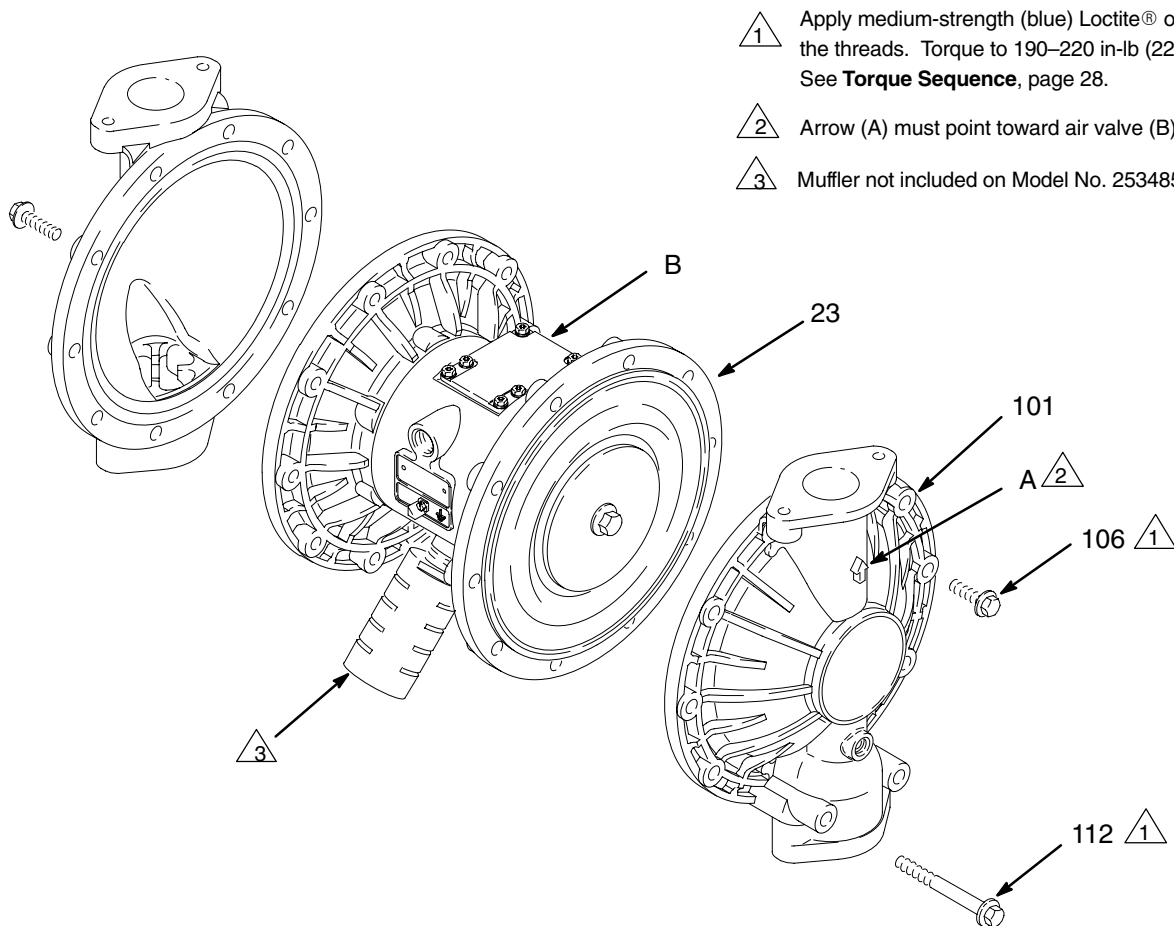
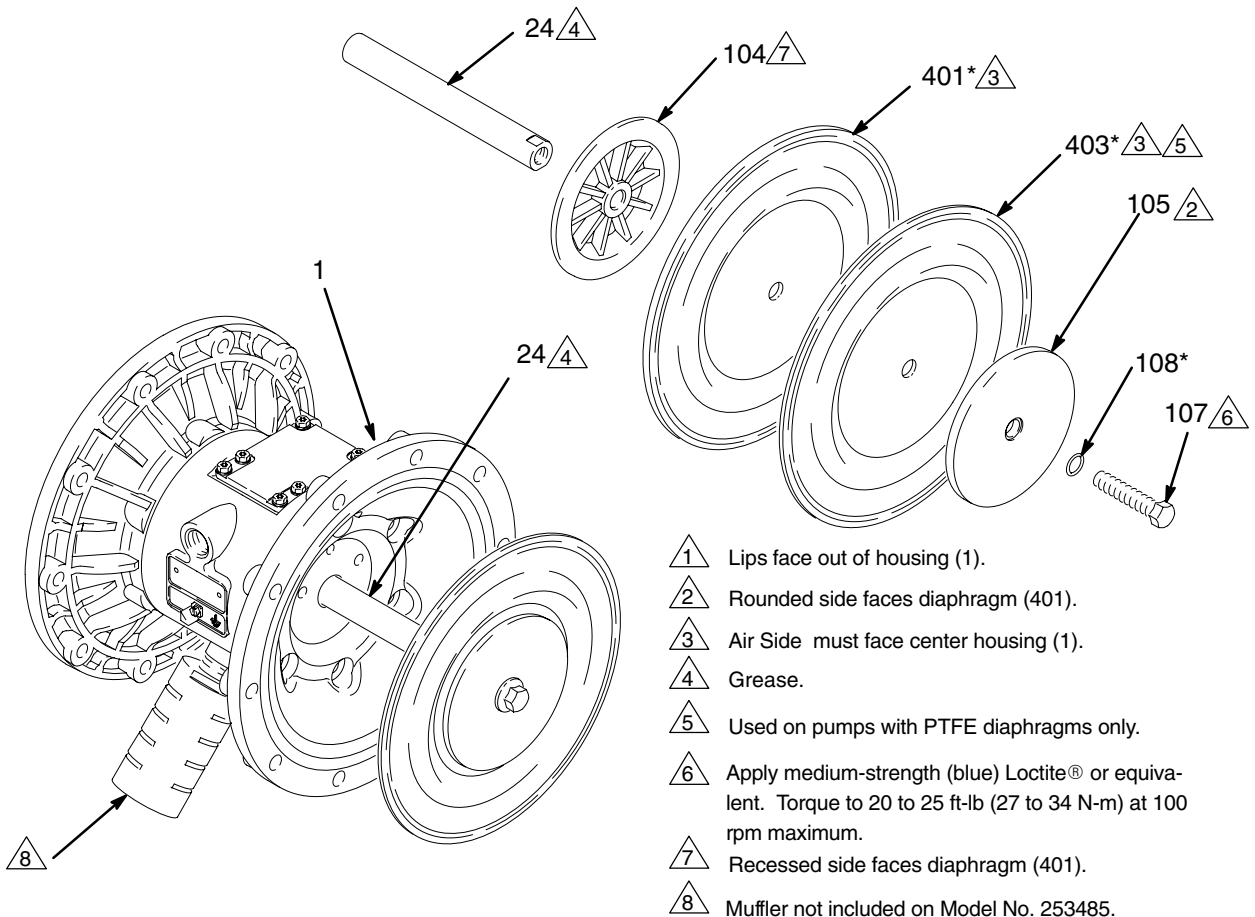
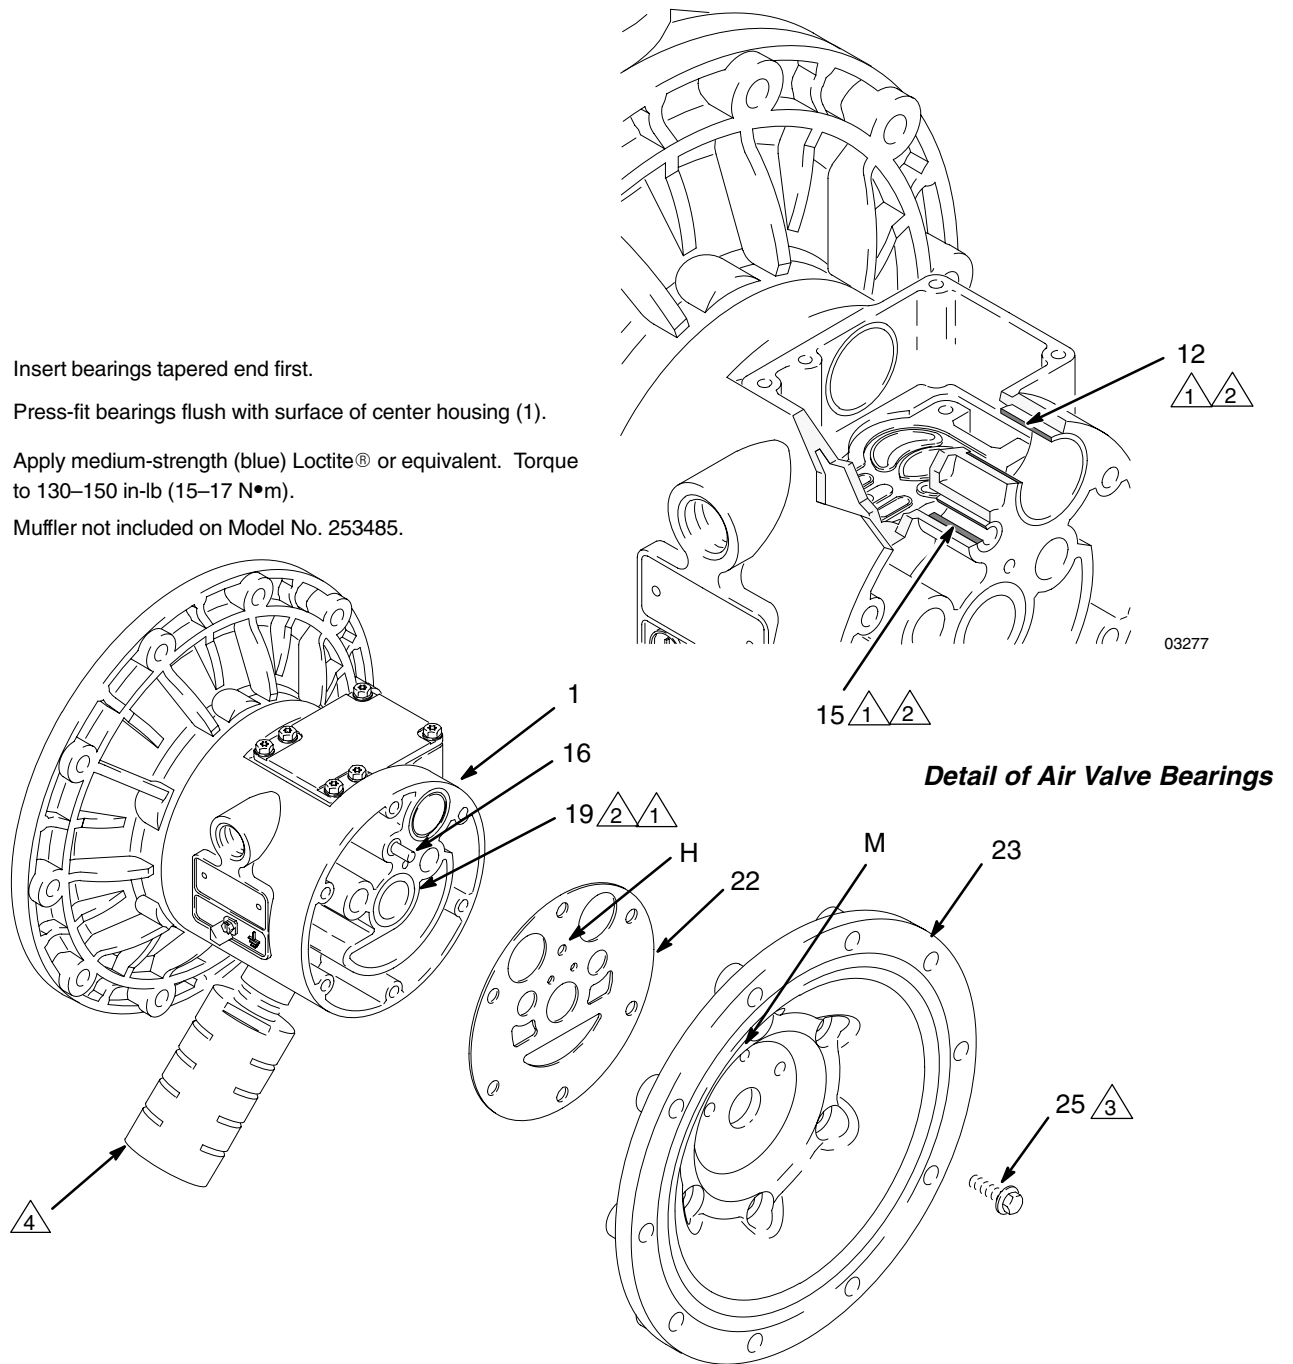

Fig. 11
Fig. 12
Fig. 13
3. Using a 13 mm socket wrench, remove the screws (106 and 112) holding the fluid covers (101) to the air covers (23). Pull the fluid covers (101) off the pump. See Fig. 11.
4. Loosen but do not remove the diaphragm shaft bolts (107), using a 15 mm socket wrench (1 in. on stainless steel models) on both bolts. *NOTE: This step does not apply to pumps with overmolded diaphragms.*
5. Unscrew one bolt from the diaphragm shaft (24) and remove the o-ring (108), fluid side diaphragm plate (105), PTFE diaphragm (403, *used on PTFE models only*), diaphragm (401), and air side diaphragm plate (104). See Fig. 12.
1. Install the shaft u-cup packings (402*) so the lips face **out** of the housing (1). Lubricate the packings. See Fig. 12.
2. Install the diaphragm assembly on one end of the shaft (24) as follows. *For pumps with overmolded diaphragms, go directly to step g.*
- a. Install the o-ring (108*) on the shaft bolt (107).
- b. Install the fluid side diaphragm plate (105) on the bolt so the rounded side faces in, toward the diaphragm (401).
- c. *On PTFE models only*, install the PTFE diaphragm (403*). Make certain the side marked AIR SIDE faces the center housing (1).
- d. Install the diaphragm (401*) on the bolt. Make certain the side marked AIR SIDE faces the center housing (1).
- e. Install the air side diaphragm plate (104) so the recessed side faces the diaphragm (401).
- f. Apply medium-strength (blue) Loctite® or equivalent to the bolt (107) threads. Screw the bolt (107) into the shaft (24) hand tight.
- g. *For overmolded diaphragms:* Assemble the air side plate (104) onto the diaphragm (403). The wide, radiused side of the plate must face the diaphragm. Apply medium-strength (blue) Loctite or equivalent to the threads of the diaphragm assembly. Screw the assembly into the shaft (24) hand tight.
3. Grease the length and ends of the diaphragm shaft (24), and slide it through the housing (1).
5. Hold one shaft bolt (107) with a wrench and torque the other bolt to 20–25 ft-lb (27–34 N•m) at 100 rpm maximum. *NOTE: This step does not apply to pumps with overmolded diaphragms.*
6. Align the fluid covers (101) and the center housing (1) so the arrows (A) on the covers face the same direction as the air valve (B). Apply medium-strength (blue) Loctite® or equivalent to the threads of screws (106) and (112), and secure the covers with the screws handtight. Install the longer screws (112) in the bottom holes of the covers. See Fig. 11. Using a 13 mm socket wrench, torque the screws oppositely and evenly to 190–220 in-lb (22–25 N•m). See **Torque Sequence**, page 28.
- NOTE:** If you are removing only the diaphragm shaft bearing (19), skip step 4.
5. Using a 10 mm socket wrench, remove the screws (25) holding the air covers (23) to the center housing (1). See Fig. 13.
6. Remove the air cover gaskets (22). Always replace the gaskets with new ones.
7. Use a bearing puller to remove the diaphragm shaft bearings (19), air valve bearings (12) or pilot pin bearings (15). Do not remove undamaged bearings.
8. If you removed the diaphragm shaft bearings (19), reach into the center housing (1) with an o-ring pick and hook the u-cup packings (402), then pull them out of the housing. Inspect the packings. See Fig. 12.
1. If removed, install the shaft u-cup packings (402*) so the lips face **out** of the housing (1).
2. The bearings (12, 15, and 19) are tapered and can only be installed one way. Insert the bearings into the center housing (1), **tapered end first**. Using a press or a block and rubber mallet, press-fit the bearing so it is flush with the surface of the center housing.
4. Align the new air cover gasket (22) so the pilot pin (16) protruding from the center housing (1) fits through the proper hole (H) in the gasket.
5. Align the air cover (23) so the pilot pin (16) fits in the middle hole (M) of the three small holes near the center of the cover. Apply medium-strength (blue) Loctite® or equivalent to the threads of screws (25), and install the screws handtight. See Fig. 13. Using a 10 mm socket wrench, torque the screws oppositely and evenly to 130–150 in-lb (15–17 N•m).